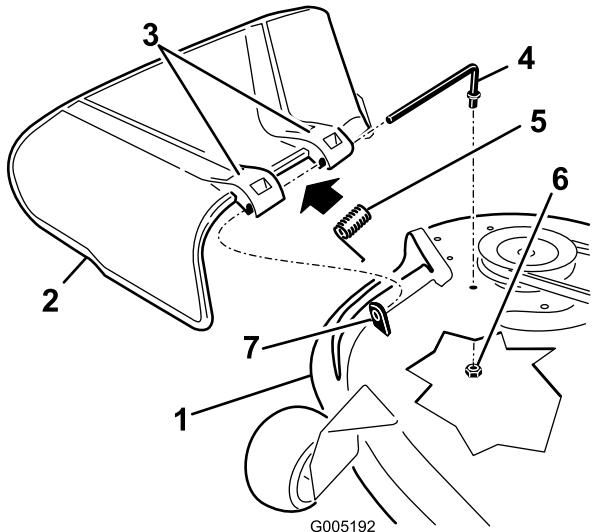

Figure 60
1. Locate items shown in Figure 60.
2. Remove the nut (3/8 inch) from the rod under the mower (Figure 60).
3. Slide the rod out of the short stand-off, spring, and grass deflector (Figure 60). Remove the damaged or worn grass deflector.
4. Replace the grass deflector (Figure 60).
6. Place the spring on the rod, with end wires down, and between the grass deflector brackets. Slide rod through second grass deflector bracket (Figure 60).
7. Insert rod at front of grass deflector into short stand-off on deck. Secure rear end of rod into the mower with a nut (3/8 inch) (Figure 60).